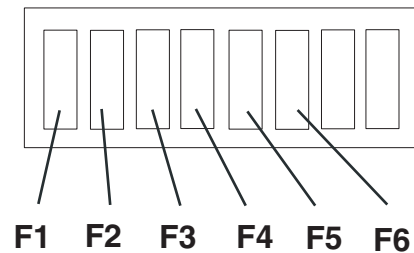
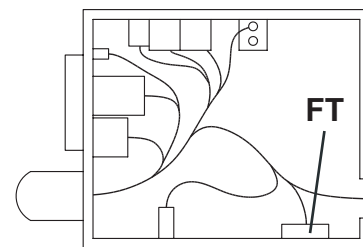

Figure 18
Figure 19
5. Remove the fuse box cover (46).
6. Check/replace the relevant fuse among the following (Fig. 18):
7. Remove the electrical component box cover (50).
8. Check/replace the following fuse (Fig. 19):
9. Remove and check/replace the following fuse (63):